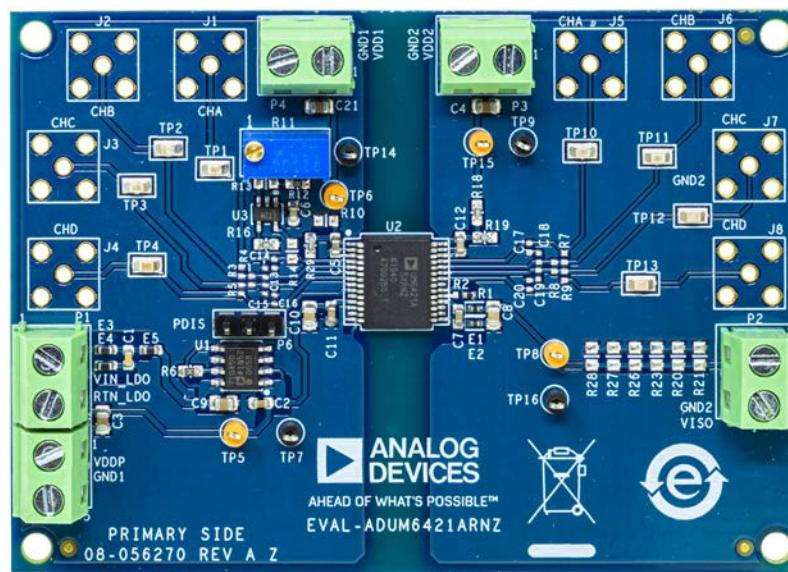
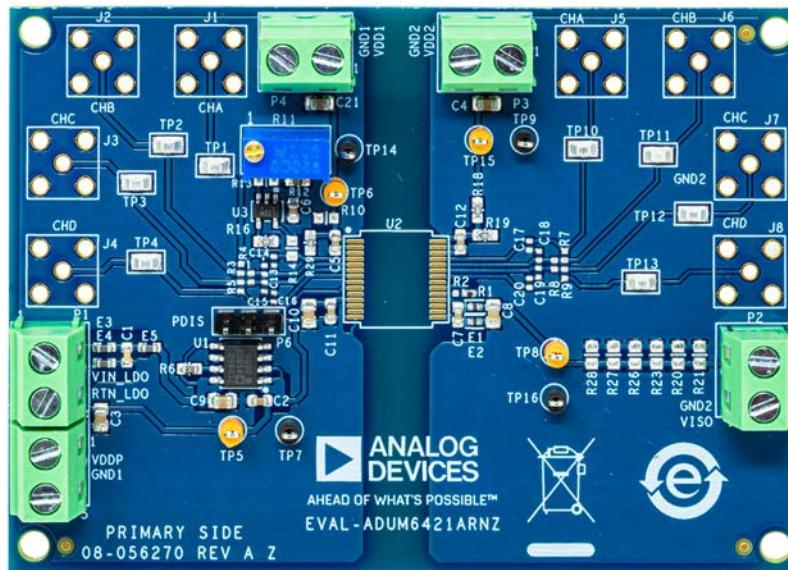
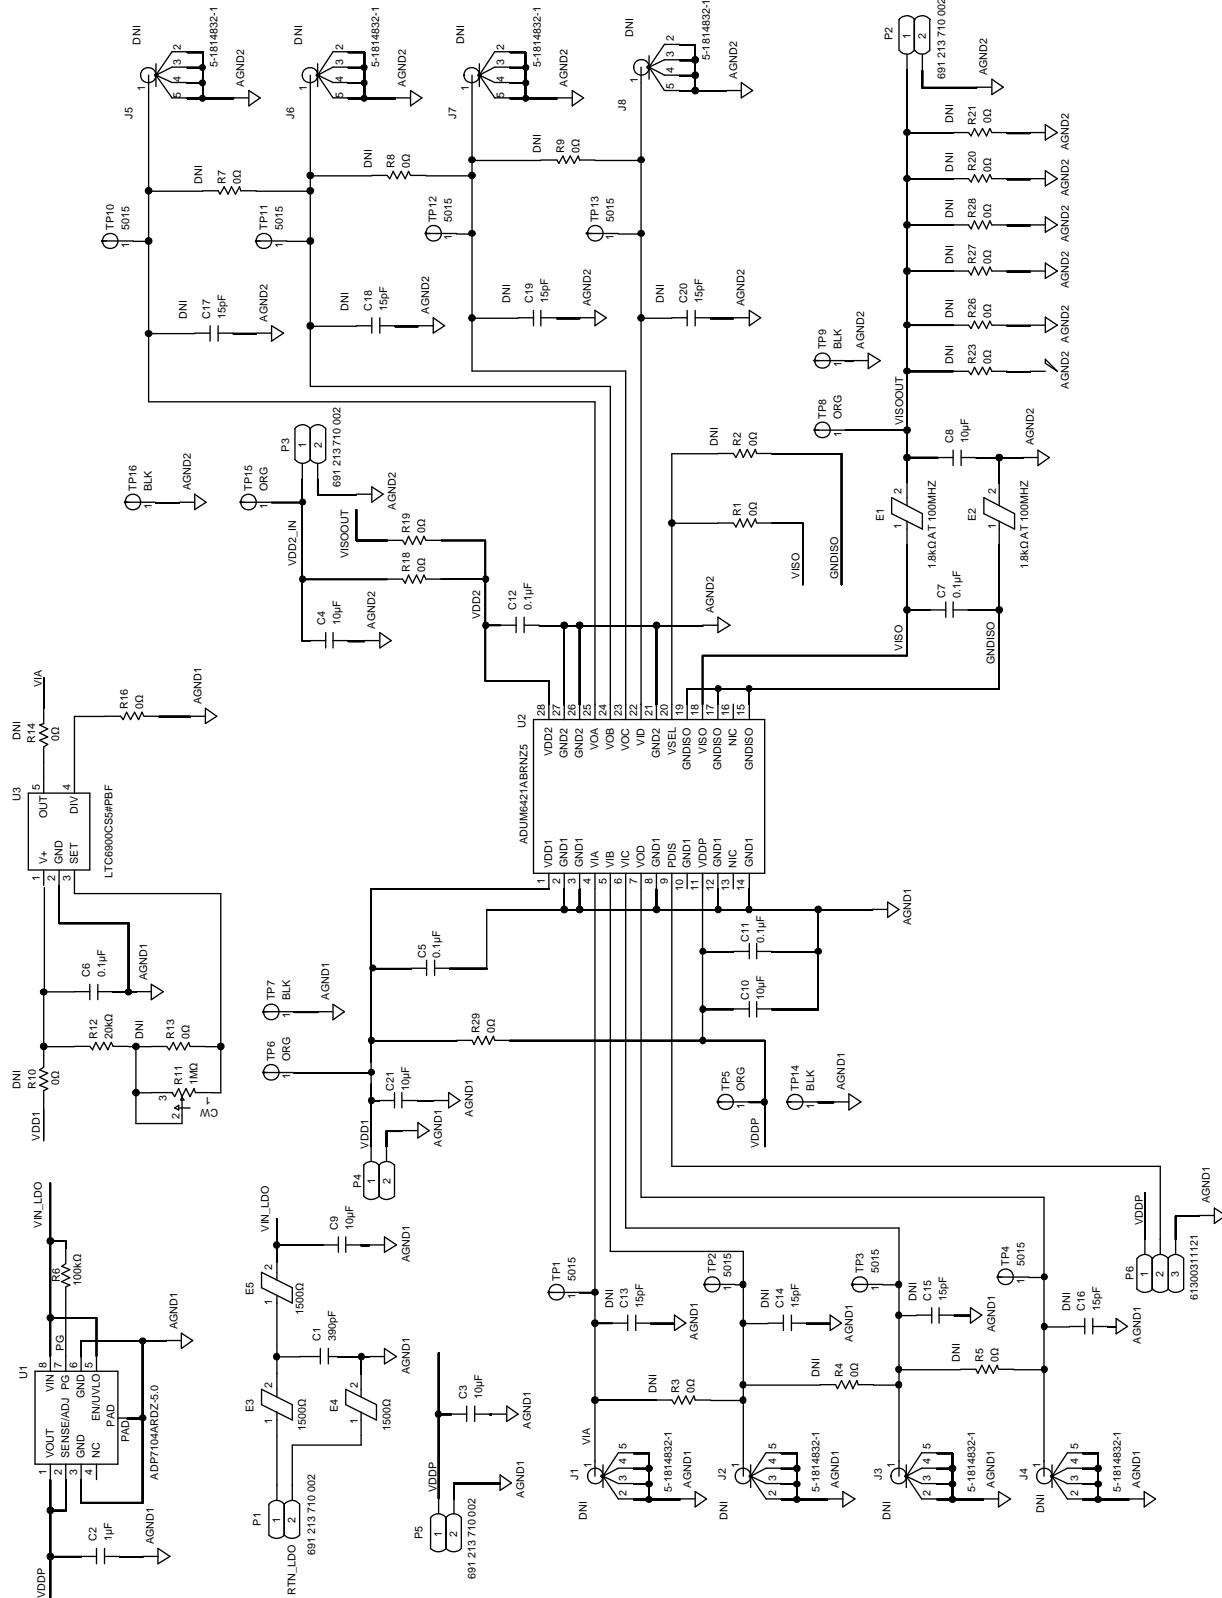

Figure 1. EVAL-ADuM6421ARNZ
Figure 2. EVAL-ADuM6421AURNZ
Figure 6. EVAL-ADUM6421ARNZ/EVAL-ADUM6421AURNZ Schematic
Figure 1 and Figure 2 show the EVAL-ADUM6421ARNZ and EVAL-ADUM6421AURNZ, respectively. The ADuM6420A/ADuM6421A/ADuM6422A can be powered directly or by the on-board low dropout (LDO) regulator. Either power scheme can be used without modification to the evaluation boards. The LDO input supply and return, Pin 1 and Pin 2, respectively, of Screw Terminal P1 (marked VIN_LDO and RTN_LDO in Figure 6), requires a power supply voltage of 6 V to 9 V. The LDO supply input is filtered by a ferrite bead network. The LDO generates the required 5 V to the ADuM6420A/ADuM6421A/ADuM6422A V_{DDP} pin. A 9 V battery can power the evaluation boards (when testing for electromagnetic compatibility (EMC), for example). Alternatively, the ADuM6420A/ADuM6421A/ADuM6422A can be powered directly with a 5 V supply through Pin 1 of Screw Terminal P5 (marked VDDP in Figure 6).
In both power schemes, the power supply return connects to Pin 2 of Screw Terminal P1 or P5 (marked AGND1 in Figure 6).
- Connect the V_{ISO} load (shown in Figure 6) using a PCB trace. Do not connect the V_{ISO} load to a power plane.